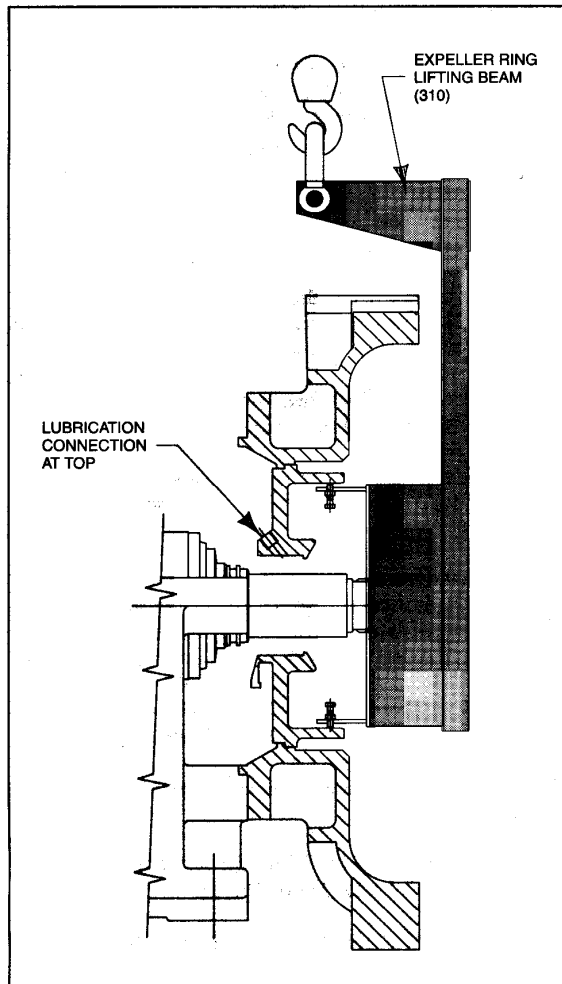

Figure 5-11 Use of Expeller Ring Lifting Beam
2. Join the three (3) segments of RELEASE COLLAR (239) with its socket head cap screws and tighten securely. Complete Release Collar installation and disassembly instructions are covered on pages 5-9 and 5-10 of the manual. Fit RELEASE COLLAR (flat face out) onto the shaft and slide it up to labyrinth.
3. Slide SHAFT SLEEVE O-RING (109) onto the shaft up to release collar. Apply anti-seize lubricant to exposed shaft, including threads.
4. Slide SHAFT SLEEVE (075) onto the shaft up to the release collar
7. Attach EXPELLER RING LIFTING BEAM (310) to EXPELLER RING (029) on opposite side of lugs using three jacking screws provided, and insure that the water inlet in the expeller ring is in line with the lifting beam. (Refer to Figure 5-11.)
7. Attach EXPELLER RING LIFTING BEAM (310) to EXPELLER RING (029) onto the opposite side of lugs using three jacking screws provided, and insure that the water inlet in the expeller ring is in line with the lifting beam. (Refer to Figure 5-11)
- c. Assemble GLAND (044) halves over shaft sleeve with gland neck toward expeller ring, insert GLAND CLAMP BOLTS (126), and fully tighten. Push into the expeller ring to compress packing rings. Insert GLAND BOLTS (045) and tighten nuts until snug.
10. Fit second SHAFT SLEEVE O-RING (109) and push it into recess in end face of shaft sleeve.
11. Place EXPELLER (028) on shaft, slide over shaft spacer, and press up to shaft sleeve.
1. Fit a SHAFT SLEEVE O-RING (109) into the labyrinth groove.
2. Join the SPLIT RELEASE COLLAR (239) with its socket head cap screws and tighten securely. Complete Release Collar installation and disassembly instructions are covered on pages 5-9 and 510 of the manual. Fit collar (conical face out) onto the shaft and slide up to labyrinth (omit this step for the 6/4 SHH). Apply anti-seize lubricant to exposed shaft, including threads.
3. Slide SHAFT SLEEVE SPACER (179) onto the shaft and slide up against labyrinth.
4. Fit a second SHAFT SLEEVE O-RING (109) onto the shaft and slide up against the shaft sleeve spacer.
5. Slide SHAFT SLEEVE (075) onto the shaft and up against the shaft sleeve spacer.
7. Attach EXPELLER RING LIFTING BEAM (310) to EXPELLER RING (029) onto opposite side of lugs using three jacking screws provided, and make certain the water inlet in the expeller ring is in line with the lifting beam. (*Refer to Figure 5-11*)
- c. Assemble GLAND (044) halves over shaft sleeve with gland neck toward expeller ring, insert GLAND CLAMP BOLTS (126), and fully tighten. Insert GLAND BOLTS (045) and tighten nuts until snug.
11. Place EXPELLER (028) onto the shaft and press up to the shaft sleeve.